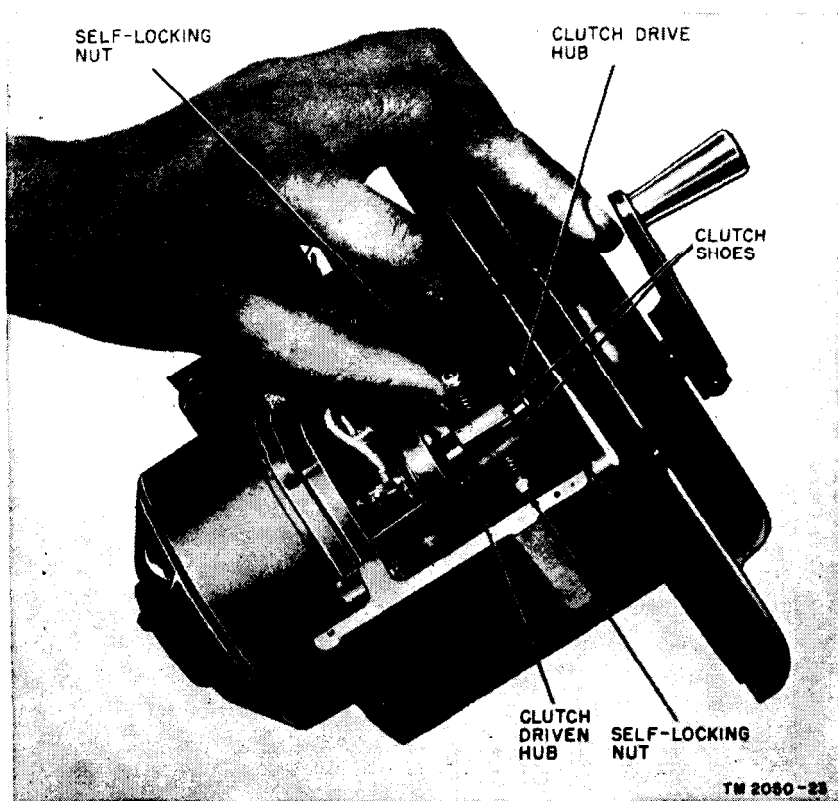

Figure 21. Adjusting output voltage.
d. If the voltage reading is above 525 volts, the slip-speed of the clutch must be lowered. Loosen the self-locking nuts that bear on the clutch springs (fig. 21). Loosen each nut about one-fourth of a turn. Operate the hand generator crank again until the clutch slips. If the voltage still is above 525 volts, repeat the adjustment until the reading on the multimeter is within the 500- to 525-volt range.